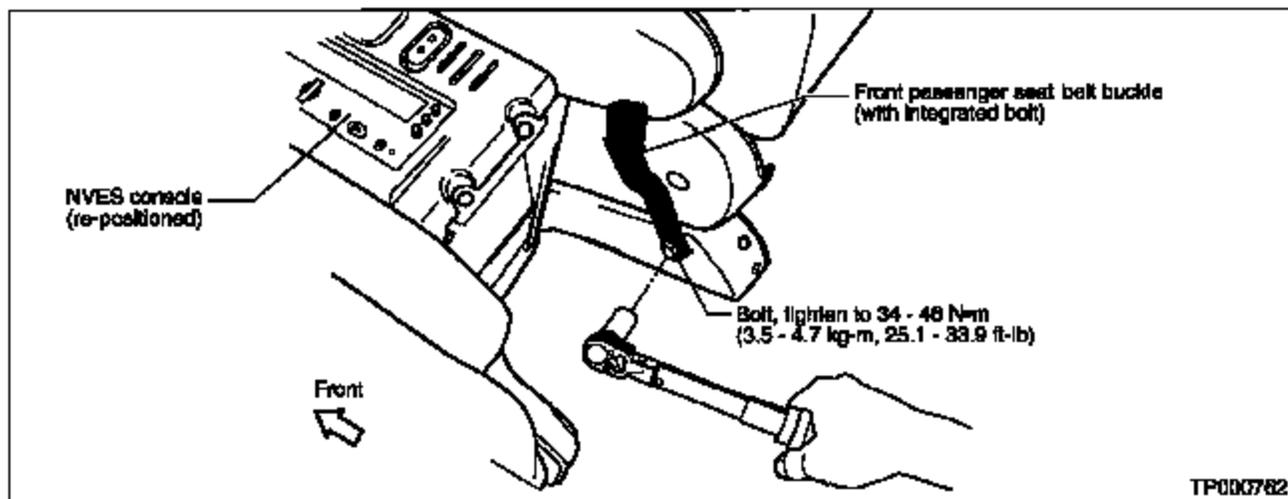

Figure 6
4. Install the new seat belt buckle and tighten the mounting bolt to 34 – 46 Nm (3.5 – 4.7 Kg-m, 25.1 – 33.9 ft-lbs). See Figure 6.